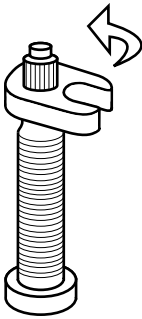

Figure 24. Turn key counter-clockwise to remove core.
3. Remove the valve core (Figure 24).